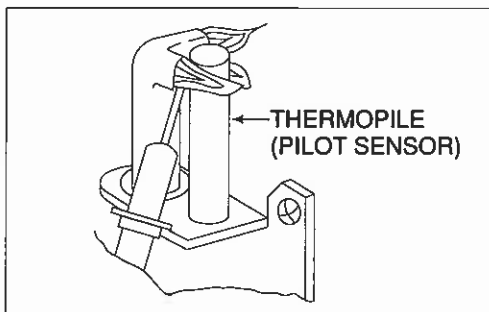

Figure 6
2. Adjust the pilot key to provide properly sized flame. See Figure 6.
Visually check the flame of the burner periodically, making sure the flames are steady; not lifting or floating. The flame color should be blue with yellow tips. The thermopile tip should be covered with flame. See Figures 6 and 7.